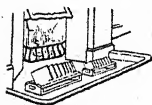

Fig. 1.
e.g., near a fire (fig. 1) or on a bath hot water tank.